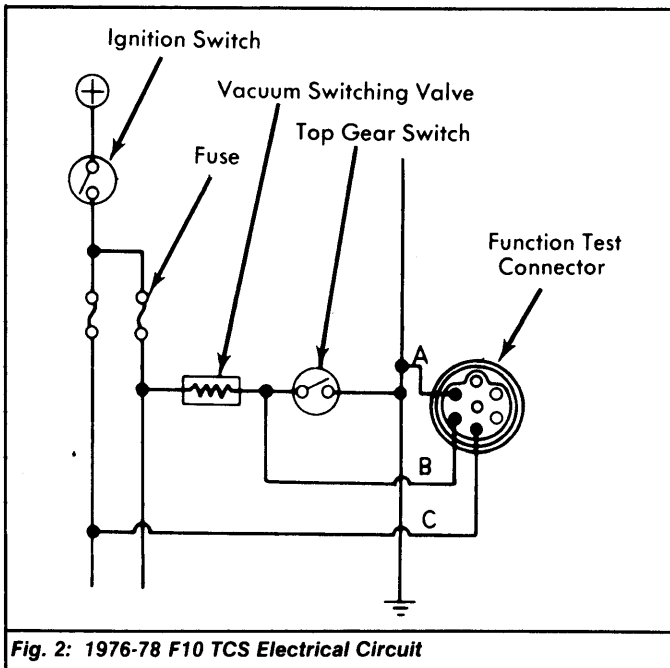

Fig. 2: 1976-78 F10 TCS Electrical Circuit
- 5) If timing does not vary as indicated on 1976 F10, turn ignition off and check continuity between terminals "B" and "C". See Fig. 2. If continuity does not exist, check fuse wiring, and vacuum switching valve. Turn ignition on and check voltage across terminals "A" and "B". Reading should be zero (0) volts in high gear and Neutral, 12 volts in all other gear positions.
4) Check electrical system at function test connector. See Figs. 2 and 3. Turn ignition on (DO NOT start engine). Check voltage across terminals "A" and "B". Reading should be 12 volts in high gear, zero (0) volts in all other gear positions. If not, check harness and/or fuse.
5) Turn ignition off. Check continuity between terminals "B" and "C" at function test connector. See Figs. 2 and 3. If no continuity exists, check fuse, wiring, and vacuum switching valve.